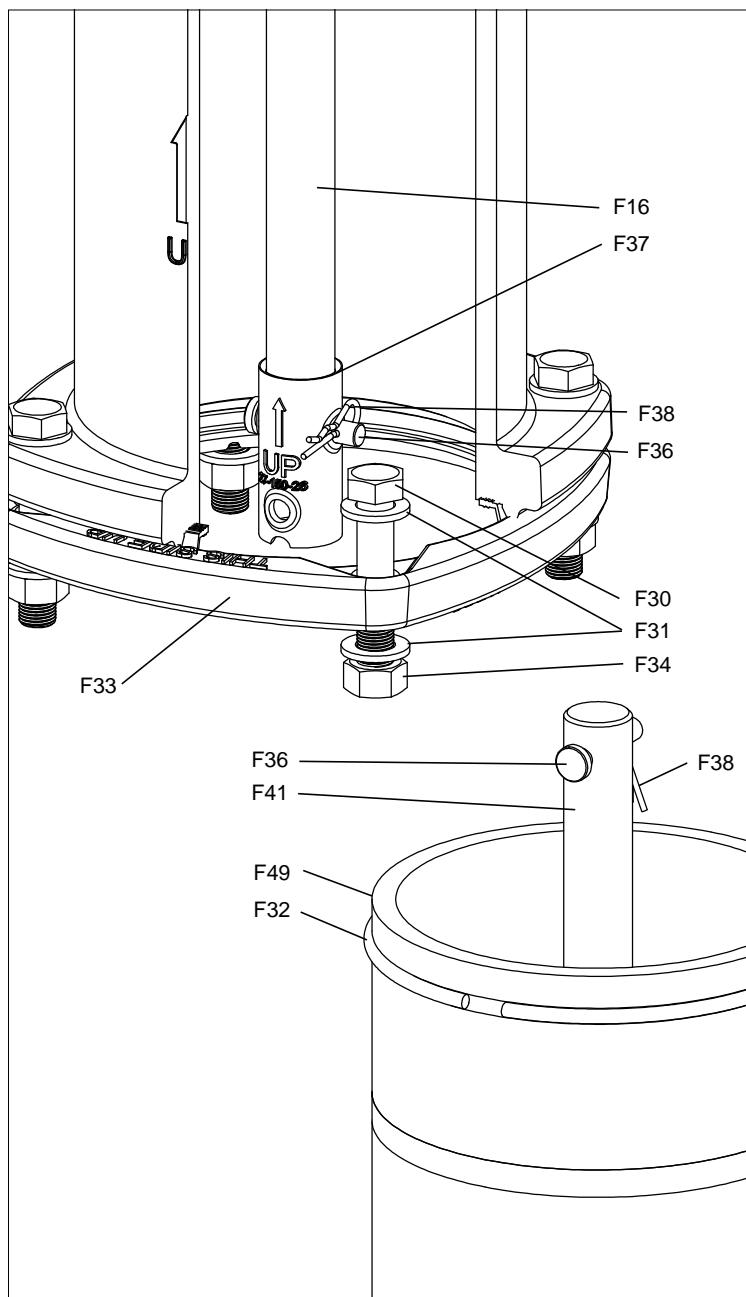

Fig. 8
1. Remove the hardware (F30,31,34) from the Breakable Flange (F33). Slide the Lock Ring (F32) off of the Lower Barrel (F49). (See Fig. 8)
WARNING: Be sure the Breakable Flange(F33) is right side up, indicated with the text "This Side Up", facing towards the nozzle section. (See Fig.8&9) . Slide a new Lock Ring (F32) into the groove on the Lower Barrel.